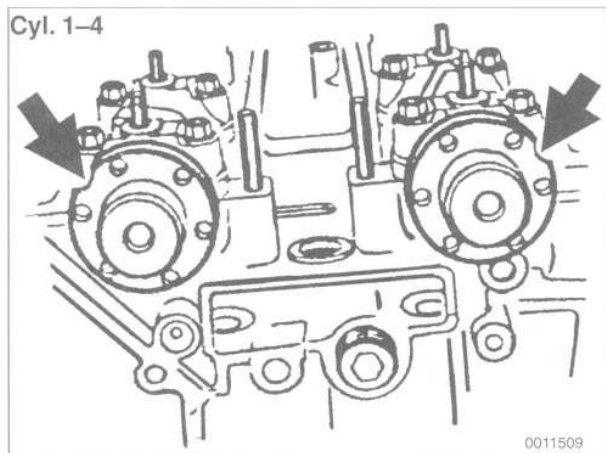
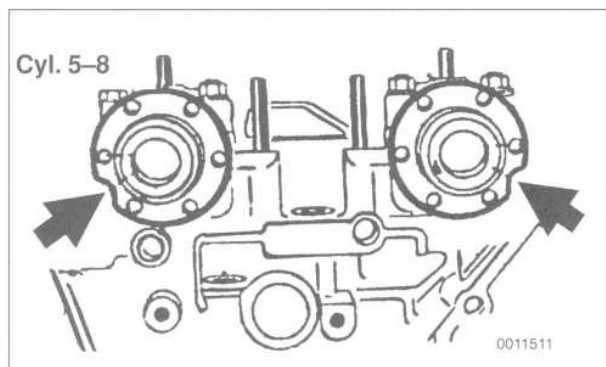

Fig. 30. Right Cylinder Head (passenger side): position camshafts with cutouts in flanges pointing **up** approximately 30 - 40° from horizontal plane.
Fig. 31. Left Cylinder Head (driver's side): position camshafts with cutouts in flanges pointing **down** approximately 30 - 40° from horizontal plane.
6. Carefully turn camshafts so that cutouts in camshaft flanges are positioned as shown in Fig. 30 or Fig. 31.
Check all components for wear as described below under **Cylinder Head Reconditioning**. Be sure all parts are installed in their original positions. Lubricate the camshafts prior to installation. When installing the camshafts into the cylinder head, position them as shown in Fig. 30 or Fig. 31.